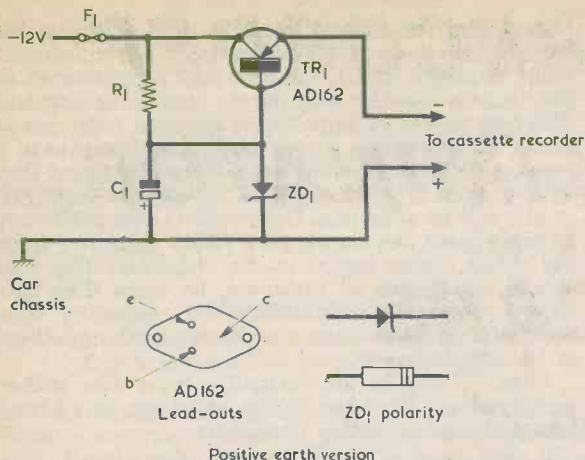

Fig. 1. The circuit of the battery eliminator unit when employed with cars having a positive earth. The value of R1 depends on the output voltage required.
There are two versions of the unit, these being for positive earth vehicles and negative earth vehicles. The two circuits are shown in Figs. 1 and 2 respectively.
- TR1 AD162 (Fig. 1)